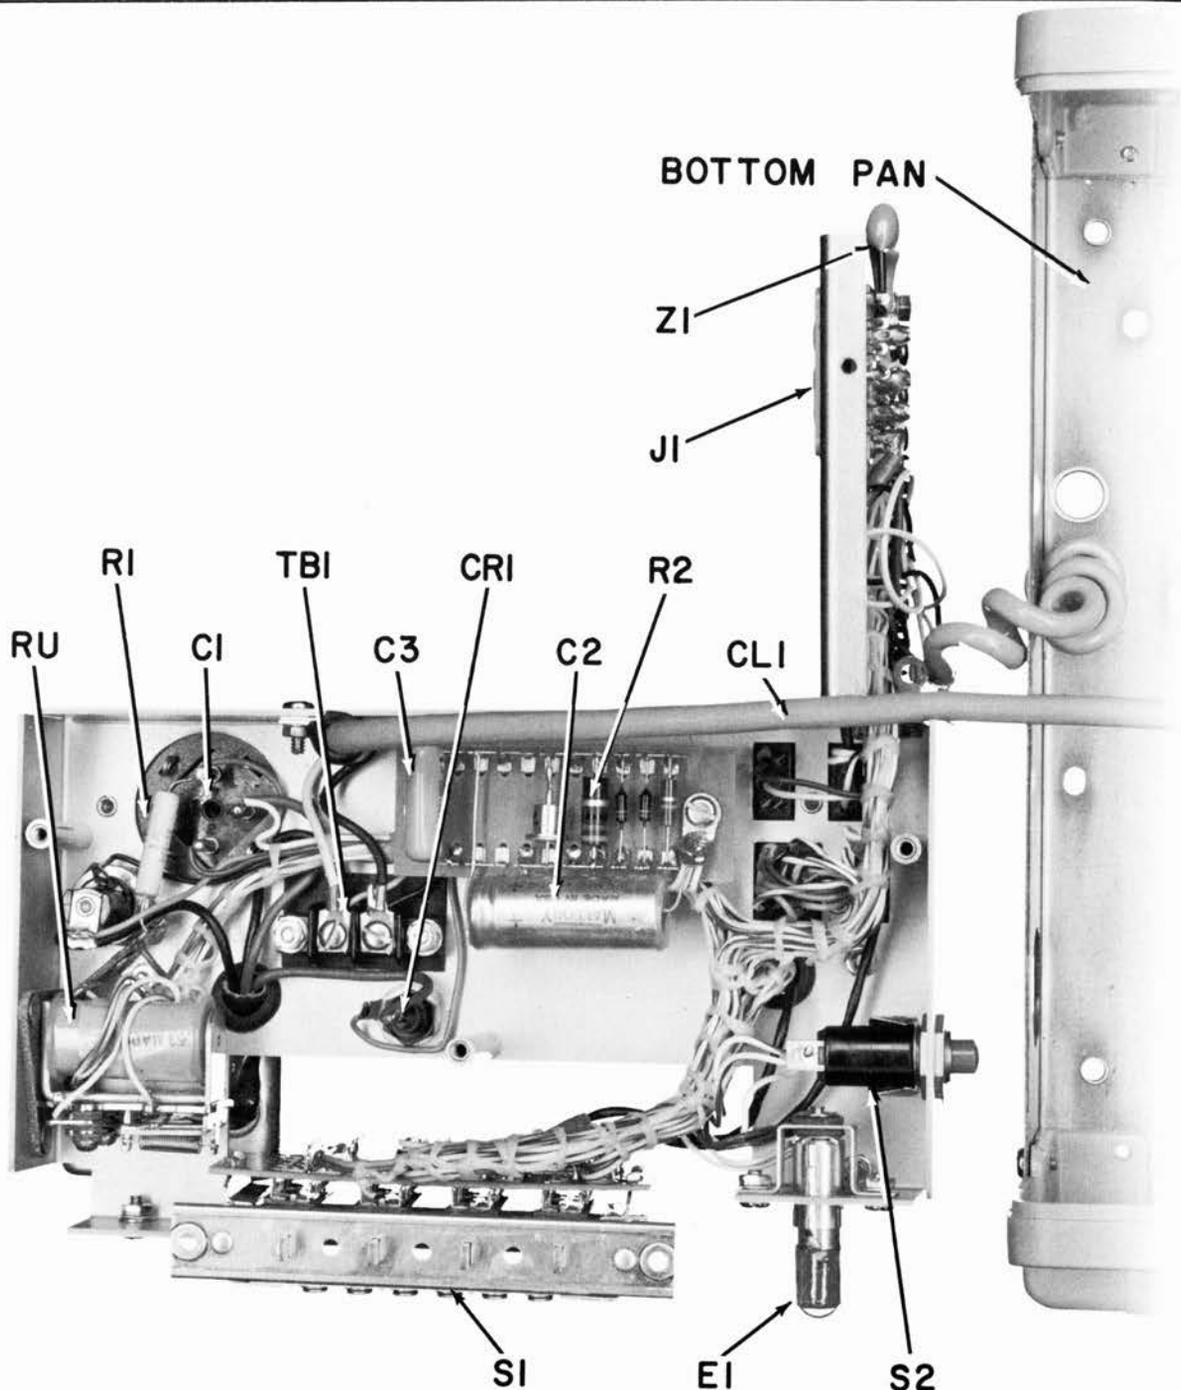

FIGURE 8 CHASSIS REMOVED FROM BOTTOM PAN
- d. While feeding A.C. power cable and handset cord through holes in bottom pan, carefully remove chassis and lay upside down beside bottom pan as in fig. 8.